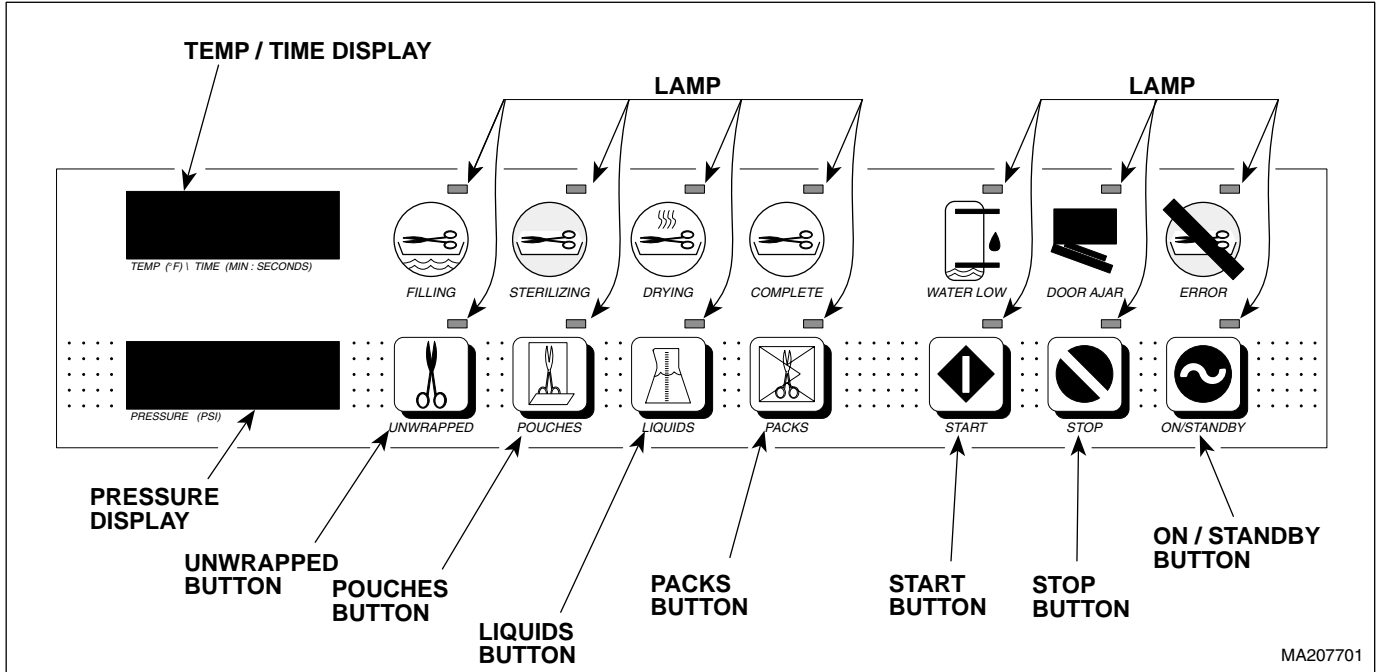

Figure 4-30. Display PC Board Lamp / Display / Button Check (M9 / M11 shown)
- (1) Disconnect power cord from the sterilizer.
- (2) Press and hold down the LIQUIDS and PACKS buttons simultaneously, while connecting the power cord to the sterilizer (See Figure 4-30). Release the LIQUIDS and PACKS buttons.
- (3) Observe the display PC board lamps. In a left to right sequence, each lamp on the display PC board should individually illuminate and then extinguish. If all the display PC board lamps do not illuminate and then extinguish, replace display PC board (Refer to para 4.21).
- (4) Press and release the UNWRAPPED, POUCHES, LIQUIDS, PACKS, START, STOP, AND ON/STANDBY buttons one at a time and in this order.
- (5) Observe the lamps that correspond with each button. If all lamps do not illuminate and stay illuminated when their corresponding button is pressed, replace the display PC board (Refer to para 4.21).
- (6) Observe the pressure and temperature/time displays. If the pressure and temperature/time displays do not display pressure and temperature readings, replace the display PC board (Refer to para 4.21).
- (7) Disconnect power cord from the sterilizer.